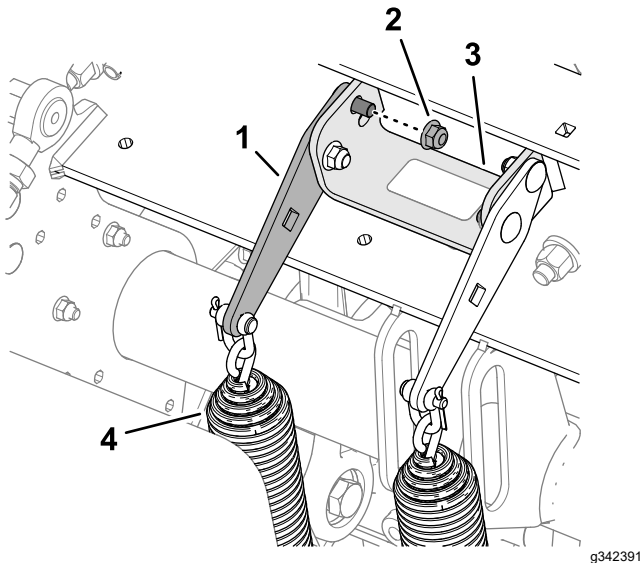

Figure 118
2. Loosen the forward flange locknut and carriage bolt that secure the spring-tension plate to the support bracket of the coring head (Figure 118).